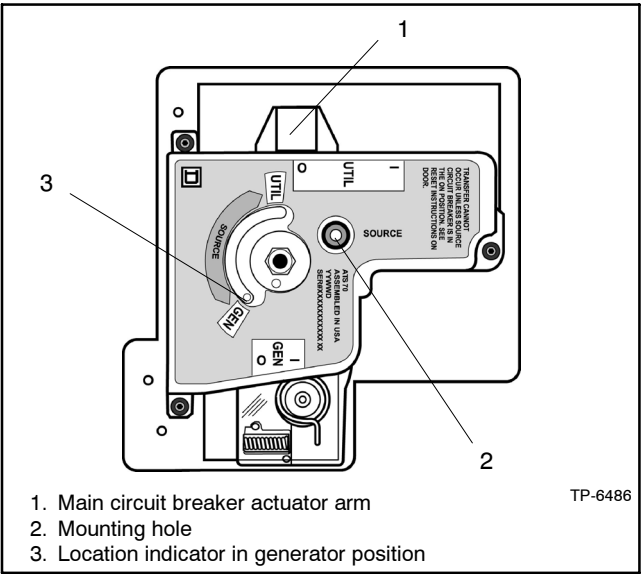

Figure 2-16 Transfer Mechanism
3. Check the position of the location indicator on the transfer mechanism. If it is not in the generator position (see Figure 2-16), refer to Section 6, Manual Operation, and manually set the transfer mechanism to the generator position.